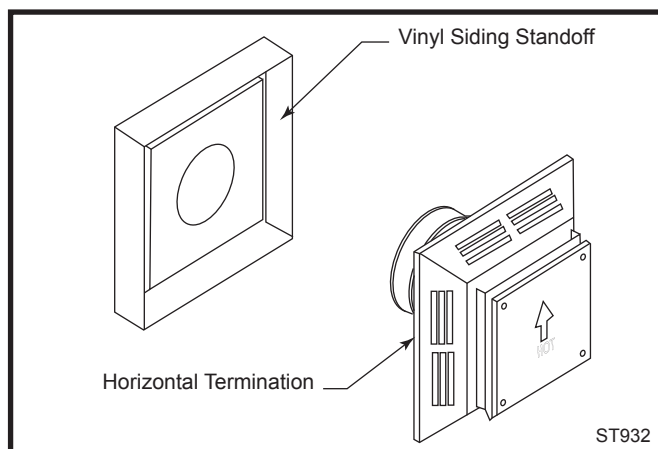

Fig. 43 Vinyl siding standoff and horizontal termination.
a Vinyl Siding Standoff (VS) must be installed prior to installing the horizontal termination. Refer to the appliance manufacturer to determine if one is recommended. Attach the vinyl siding standoff to the exterior side of the wall (making sure it is level and centered with respect to the opening) with screws (provided) at each corner of the standoff. Attach the horizontal termination to the standoff. (Fig. 43)